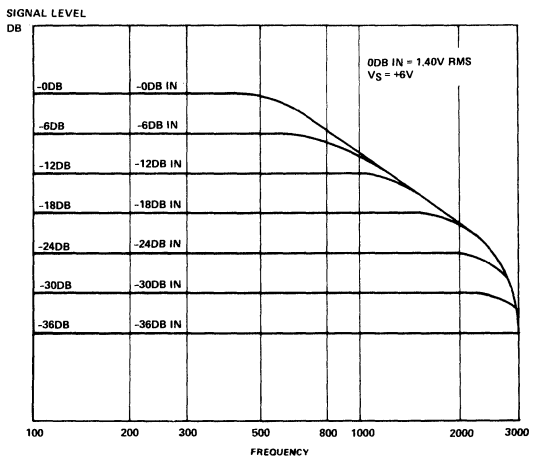

Figure 1 – Transfer Function for CVSD at 16KB
| Slope Overload | | Fig. 1 | | | (13) |
13. For large signal amplitudes or high frequencies, the encoder may become slope-overloaded. Figure 1 shows the frequency response at various signal levels, measured with a 3KHz low-pass filter having a 130dB/octave roll-off to -50dB. See Table II.